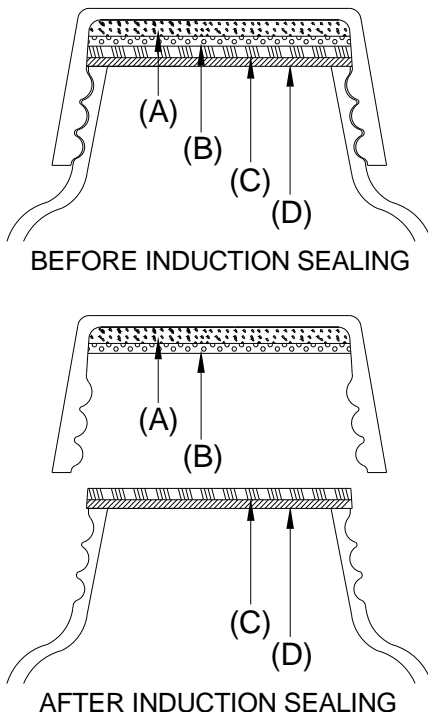

Figure 1
A multiple layer liner (**Figure 1**) typically consists of a *pulp board* layer (A), a *wax* layer (B), and a layer of *aluminum foil* (C) coated with a *polymer* (D).